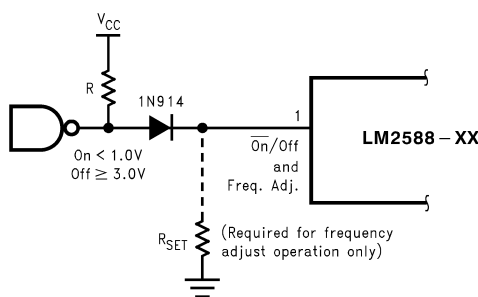

Figure 20. Shutdown Operation
- (1) All room temperature limits are 100% production tested, and all limits at temperature extremes are specified via correlation using standard Statistical Quality Control (SQC) methods.
- (2) To measure this parameter, the feedback voltage is set to a high value, depending on the output version of the device, to force the error amplifier output low and the switch off.
- (3) To measure this parameter, the feedback voltage is set to a low value, depending on the output version of the device, to force the error amplifier output high and the switch on.
- (4) To measure the worst-case error amplifier output current, the LM2588 is tested with the feedback voltage set to its low value (specified in Note 3 under the Electrical Characteristics: All Output Voltage Versions ⁽¹⁾ table) and at its high value (specified in Note 2 under the Electrical Characteristics: All Output Voltage Versions ⁽¹⁾ table).
- (5) When testing the minimum value, do not sink current from this pin—isolate it with a diode. If current is drawn from this pin, the frequency adjust circuit will begin operation (see Figure 20).
A feature of the LM2588 is its ability to be shut down using the \overline{ON}/OFF pin (pin 1). This feature conserves input power by turning off the device when it is not in use. For proper operation, an isolation diode is required (as shown in Figure 20).
The device will shut down when 3 V or greater is applied on the \overline{ON}/OFF pin, sourcing current into pin 1. In shut down mode, the device draws typically 56 μA of supply current (16 μA to V_{IN} and 40 μA to the \overline{ON}/OFF pin). To turn the device back on, leave pin 1 floating, using an (isolation) diode, as shown in Figure 20 (for normal operation, do not source or sink current to or from this pin—see the next section).
The switching frequency of the LM2588 can be adjusted with the use of an external resistor. This feature allows the user to optimize the size of the magnetics and the output capacitor(s) by tailoring the operating frequency. A resistor connected from pin 1 (the Freq. Adj. pin) to ground will set the switching frequency from 100 kHz to 200 kHz (maximum). As shown in Figure 20, the pin can be used to adjust the frequency while still providing the shut down function. A curve in the Performance Characteristics Section graphs the resistor value to the corresponding switching frequency. The table in Table 1 shows resistor values corresponding to commonly used frequencies.